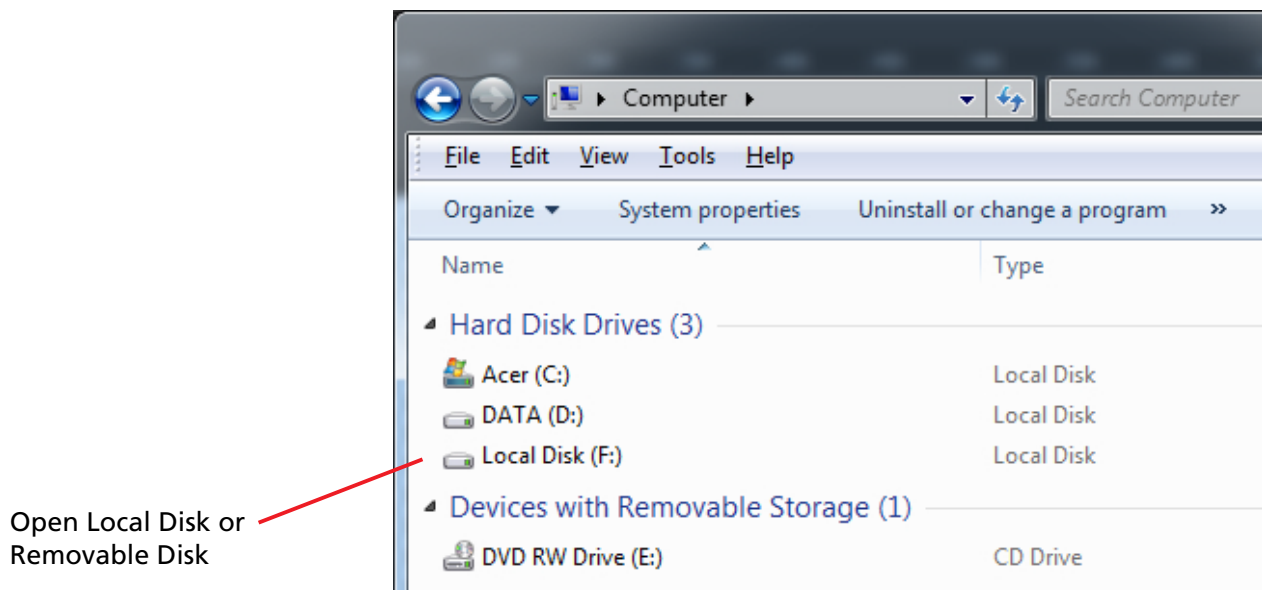

Fig 3.4a
- Go to "My computer" as shown in Fig 3.4a and open the Micro SD card which may be labelled Local Disk or Removable Disk.